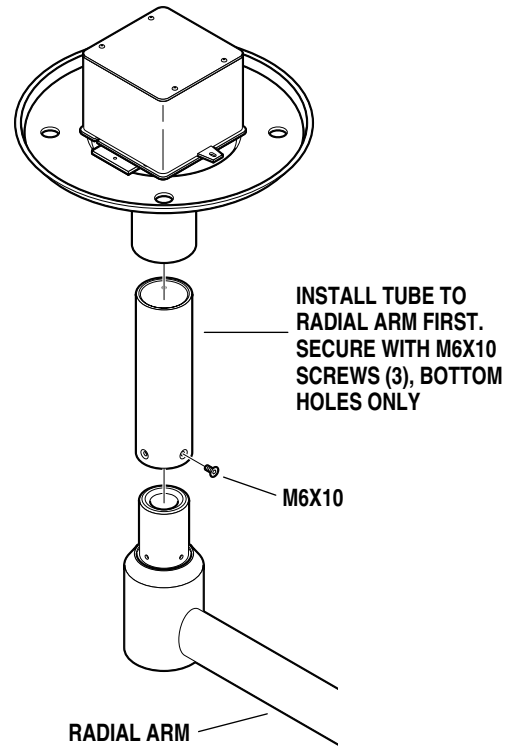

Figure 3. Minimum Length VST Installation
For installations requiring a minimum length Vertical Support Tube, secure the tube with to the Radial Arm first using three M6x10 flat head screws in the bottom holes of the tube only. See figure 3. Secure the Radial Arm and tube to the Mounting Hub with (3) M6x10 flat head screws in the top holes and (3) M6x15 screws in the bottom holes.